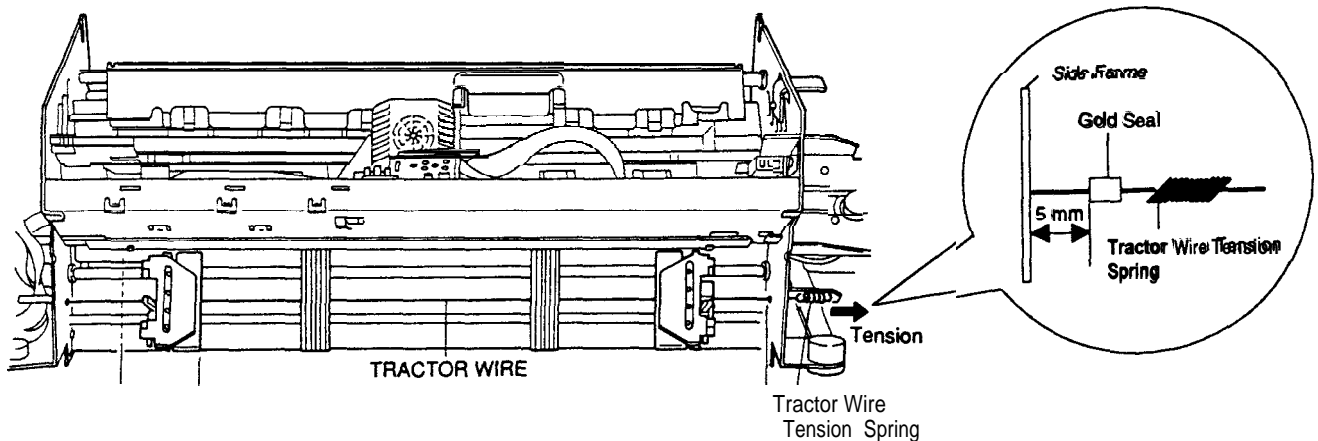

Figure 4-3. Tractor Wire tension Adjustment
| Figure 4-3. Tractor Wire Tension Adjustment. . . . .              | 4-3        |
4. Pull the tractor wire right. When the tractor wire spring tension is correct, the shaft-holder frame and the tip of the gold seal are 5 mm (0.2 inches) apart. (Refer to Figure 4-3)